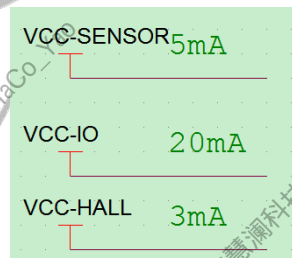

Figure 2-55 The Operating Voltage and Current of SENSOR Power
- Mark the operating voltage and the maximum operating current of SENSOR power in the schematic diagram to facilitate PCB layout design, as shown in Figure 2-55.